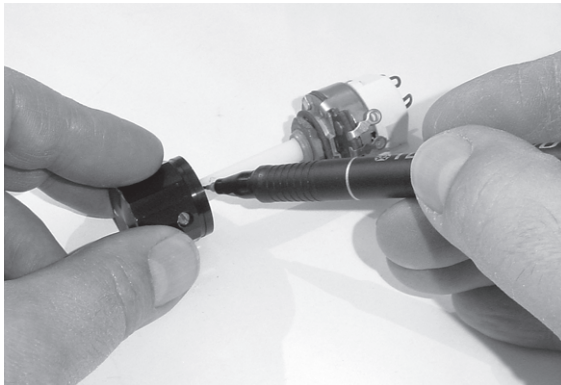

FIGURE 6.12 Push the knob on the potentiometer stem, and mark the stem.
- **MARK** the stem directly in line with the bottom of the control knob (Figure 6.12)